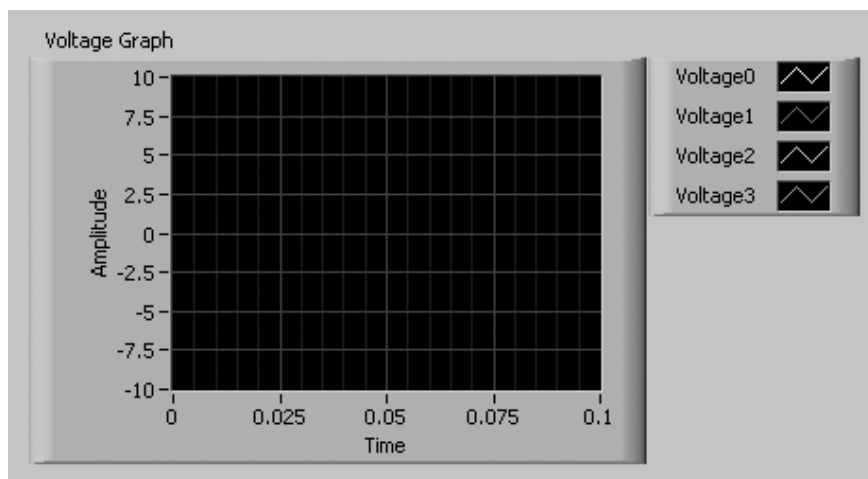

Figure 11.15
7. Build the front panel and block diagram shown in Figures 11.15 and 11.16.